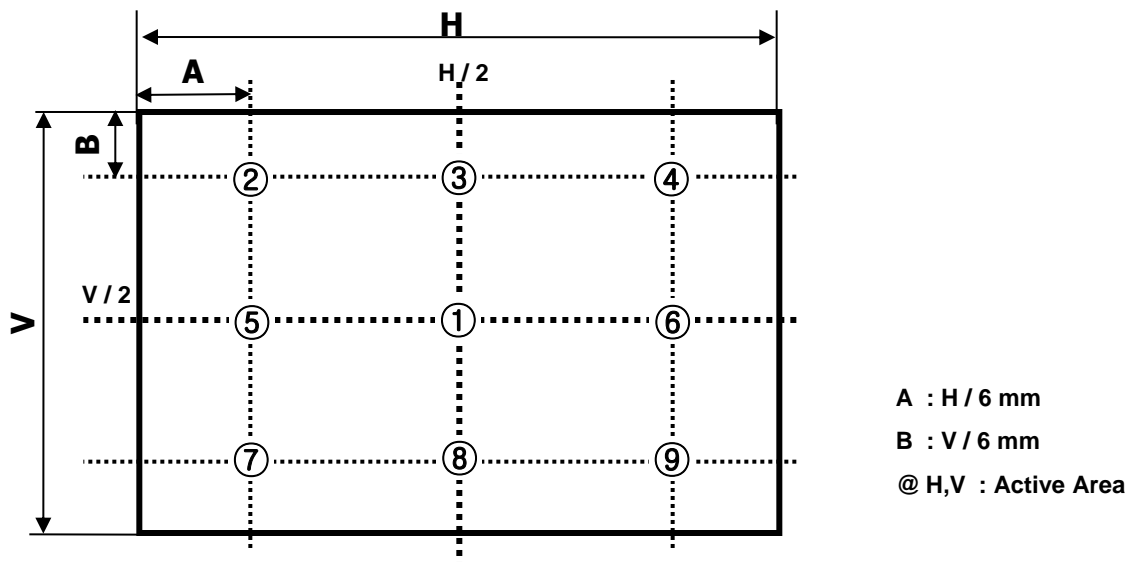

FIG. 2 9 Points for Luminance Measure
2. Optical characteristic is determined after the unit has been 'ON' and 1 Hour after lighting the backlight in a dark environment at $25 \pm 2^\circ\text{C}$. Surface luminance is the luminance value at center 1-point across the LCD surface 50cm from the surface with all pixels displaying white. For more information see the FIG. 2.
For more information, see the FIG. 2.